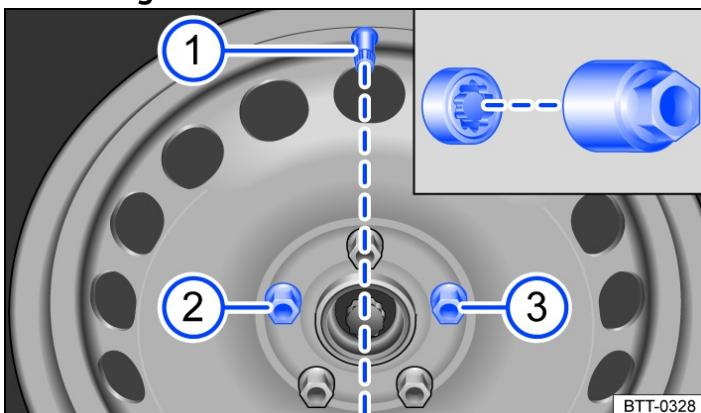

Fig. 2 Changing a wheel: tyre valve (1) and locations of the anti-theft wheel bolt (2) or (3).
On wheels with a wheel cover, the anti-theft wheel bolt must be screwed in at position → *Fig. 2* (2) or (3) according to the